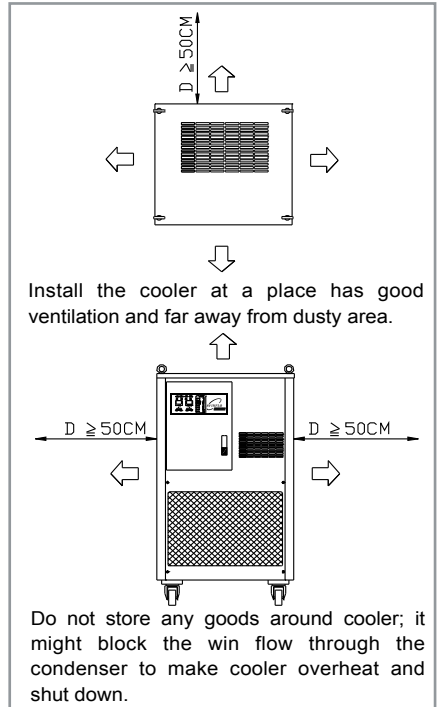

Figure 5
- (1) The cooling temperature for cooler is between 25~35°C. And the room temperature should be 5~40°C to ensure cooler's cooling capacity.
- (2) Install the cooler at a place has good ventilation and far away from dusty area.
- (3) Install the cooler on the leveled ground. Slant installation is strictly prohibited.
- (4) Install the cooler far away from water spraying area.
- (5) Do not store any goods around cooler; it might block the win flow through the condenser to make cooler overheat and shut down. (See Figure 5)
- (6) Do not install the cooler at outdoors. To prevent the cooler from direct sunlight, also away from heat source area.